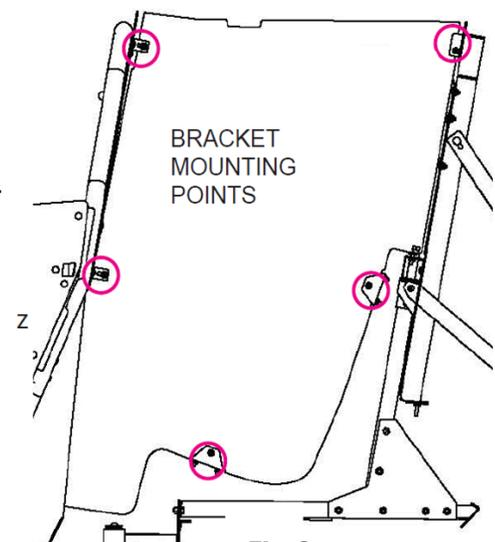

Fig. 9
- A. Re-install divider as in above Step X.C. and secure using the carriage bolts (3X82) and whiz nuts (3X16Z) provided. (Fig. 9)